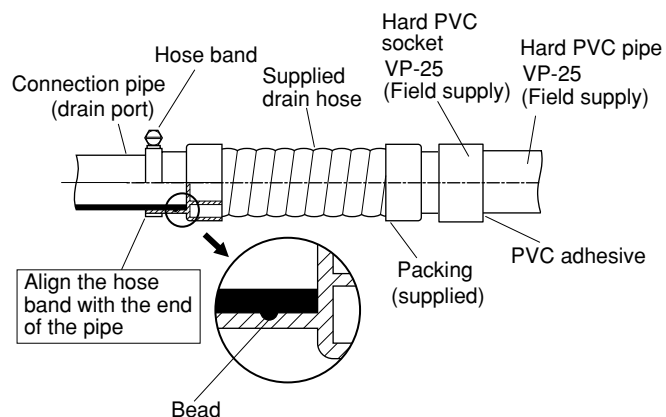

Fig. 3-53
- (1) Prepare a standard hard PVC pipe (O.D. 32 mm) for the drain and use the supplied drain hose and hose band to prevent water leaks. The PVC pipe must be purchased separately. The unit's transparent drain port allows you to check drainage. (Fig. 3-53)
- **Insert the drain pipe until it contacts the socket, as shown in Fig. 3-53, then secure it tightly with the hose band.**
- **Align the hose bands with the end of the hose. Tighten the hose band firmly. Please make sure that the bead is not covered by the hose band. (Fig. 3-53)**
Tighten the hose clamps so their locking nuts face upward. (Fig. 3-53)